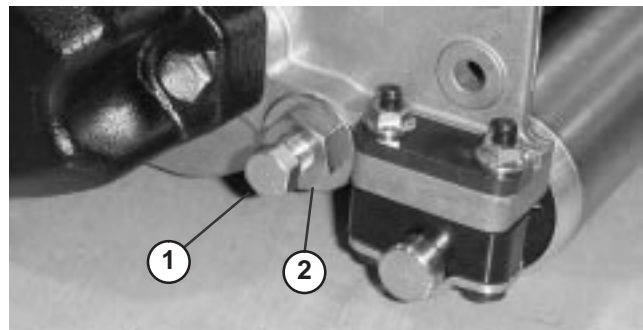
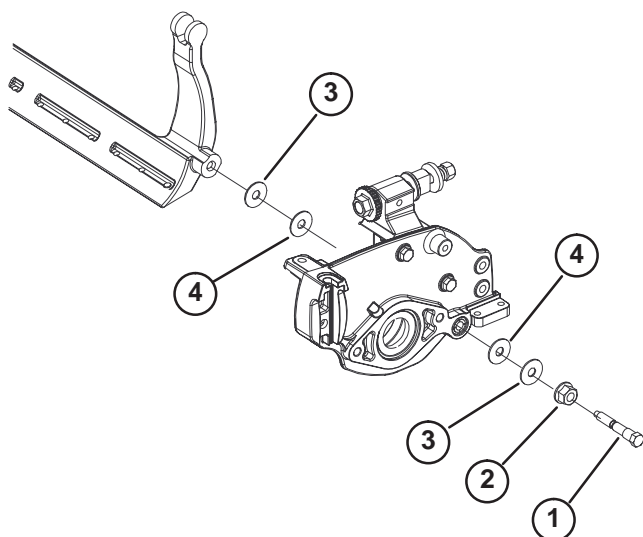

Figure 18
Figure 19
3. On each side of the machine, loosen the nut securing the bedbar bolt (Fig. 18).
4. Remove each bedbar bolt allowing bedbar to be pulled downward and removed from machine (Fig. 18). Account for 2 nylon and 2 stamped steel washers on each end of bedbar (Fig. 19).
2. Secure bedbar to each side plate with bedbar bolts (nuts on bolts) and 8 washers. A nylon washer is to be positioned on each side of side plate boss. Place a steel washer outside each of the nylon washers (Fig. 19). Torque bolts to 240–320 in.-lb. Tighten nuts until thrust washers just rotate freely.